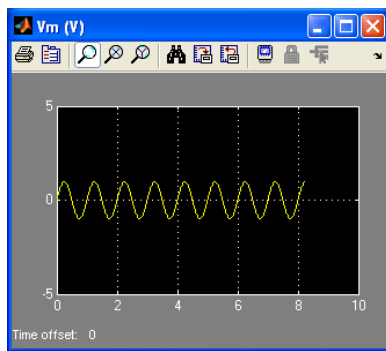
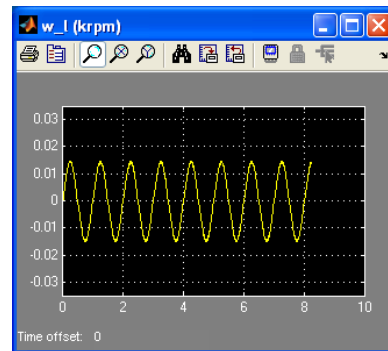

Figure A.13: Sinusoidal input voltage.
Figure A.14: High gear velocity reading using tachometer.
11. Examine the relationship between the input voltage and load speed. When the input voltage increases in the positive direction, the tachometer velocity decreases. Similar to the potentiometer, the speed of the load shaft should go positive when the input voltage is positive. To fix this, add a negative sign to the *Tachometer Calibration (krpm/V)* block so the entered value becomes $-1 / 1.5 / 70$ (or $-1 / 1.5 / 14$ for low-gear). The input voltage and load velocity scopes should read as shown in Figure A.13 and Figure A.14.